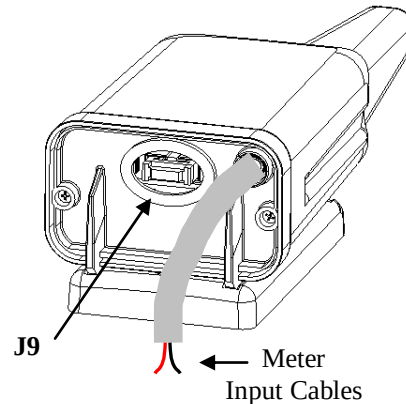

Figure 1: MT2W-MK™ View
MT2W-MK™ has one connector (see Figure 1).
1. **J9:** The 10-pin programming jack is a serial port to connect a PC or a FTU (see Figure 1).
4. Insert the terminator to J9 (See figure 1)